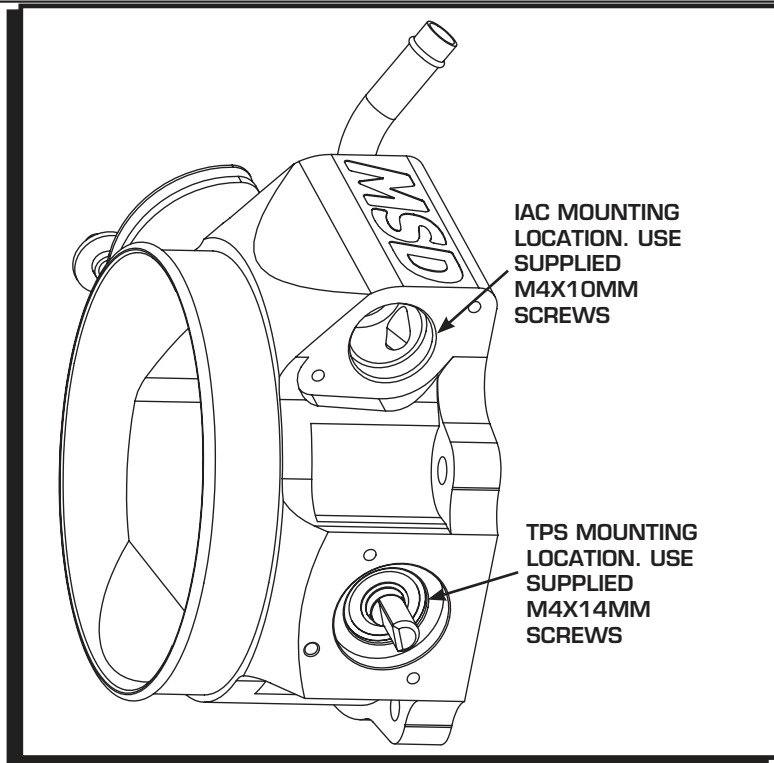

Figure 1 IAC and TPS Mounting Locations.
1. Install the TPS by inserting the D-shaped throttle shaft into the sensor assembly. Gently align the centering dowel and mounting holes. Use a drop of Blue Loctite on the M4x14mm screws and tighten the screws to 16-18 lb-in (Figure 1).
4. Locate the two M4x10mm screws to secure the IAC motor. Ensure the O-ring seal is installed on the IAC and put it in place on the throttle body. Use a drop of Blue Loctite on the screws and torque them to the bolts to 25-27 lb-in (Figure 1).